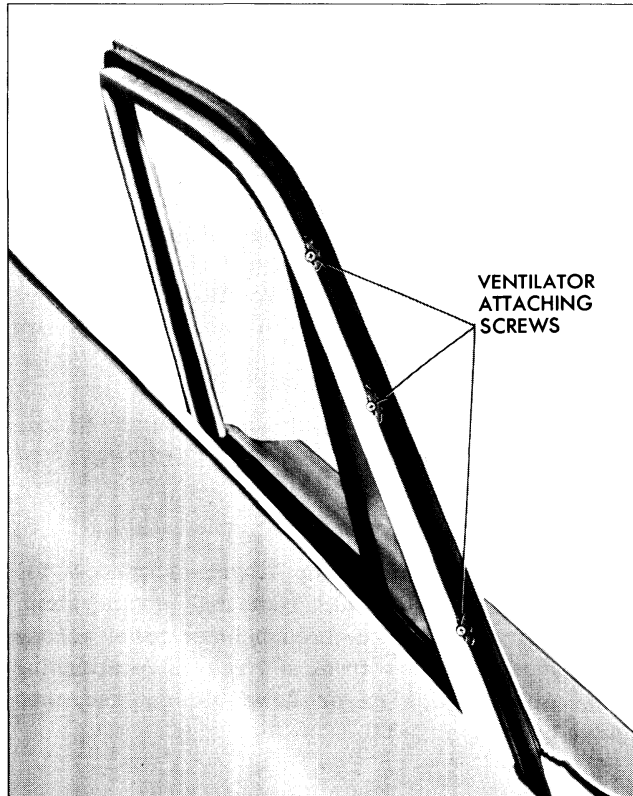

Fig. 3-30 Ventilator to Door Attachment
5. Remove ventilator upper attaching screws along door upper frame (Fig. 3-30).
5. Remove window regulator attaching bolts and carefully remove regulator from door through large access hole (Fig. 3-30).
The door window travels in the ventilator division run channel at front edge of glass and in the glass run channel at rear edge of glass. The glass run channel is retained by two bolts at the door lock pillar and by a single screw at top rear section (belt line) of door inner panel (Fig. 3-30). The run channel is provided with a slight amount of in or out adjustment as an aid in obtaining proper alignment and smooth operation of front door window at rear edge.